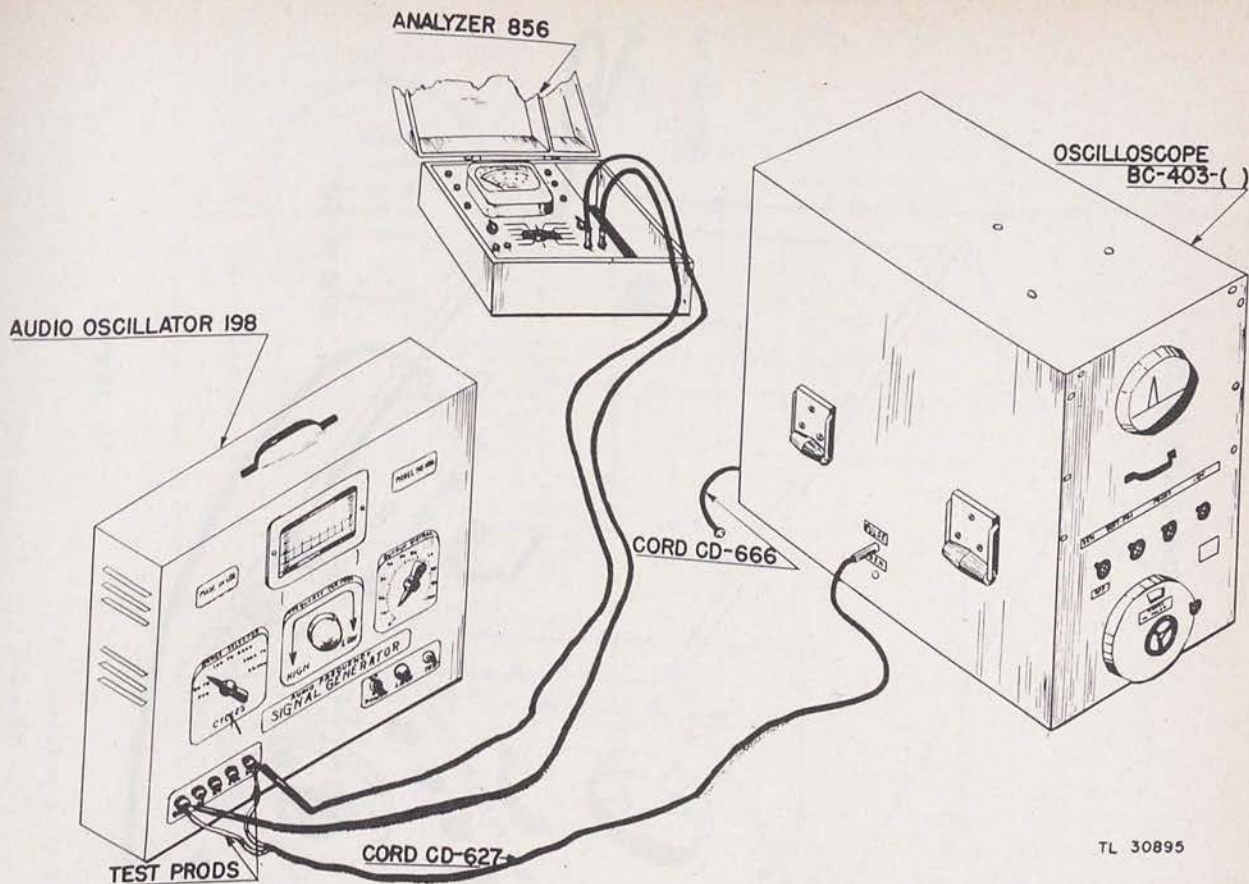

Figure 84. Oscilloscope BC-403-E, preliminary tests 1 and 2.
(1) *Test No. 1.* If the signal output at keyer jack 53-1 of the oscilloscope unit is normal (approximately 35 volts) and there is no sweep indication (no base line) on the scope screen, signal trace the oscilloscope unit beginning at the range amplifier stage (fig. 84).
(2) *Test No. 2.* If the signal output at keyer jack 53-1 of the scope unit is abnormal and there is a sweep indication on the scope screen, check the sync. line amplifier stage of the oscilloscope unit for a defect; the rest of the scope unit is normal (fig. 84).